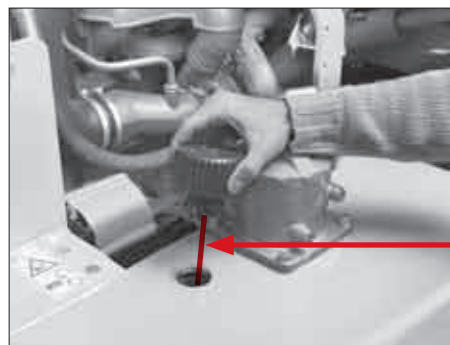

Fig. 91
5. The dip stick is located on the underside of the air filter. Remove the dip stick (Fig. 91).